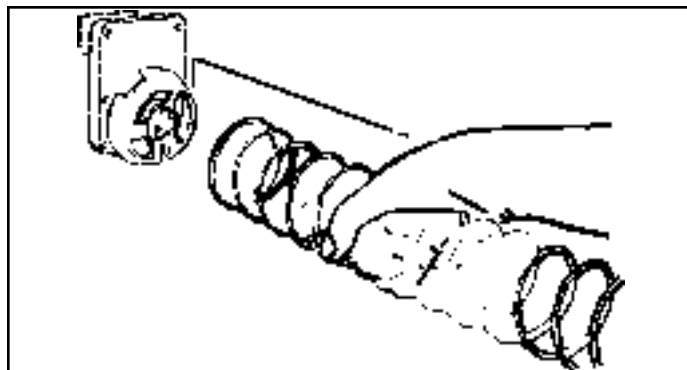
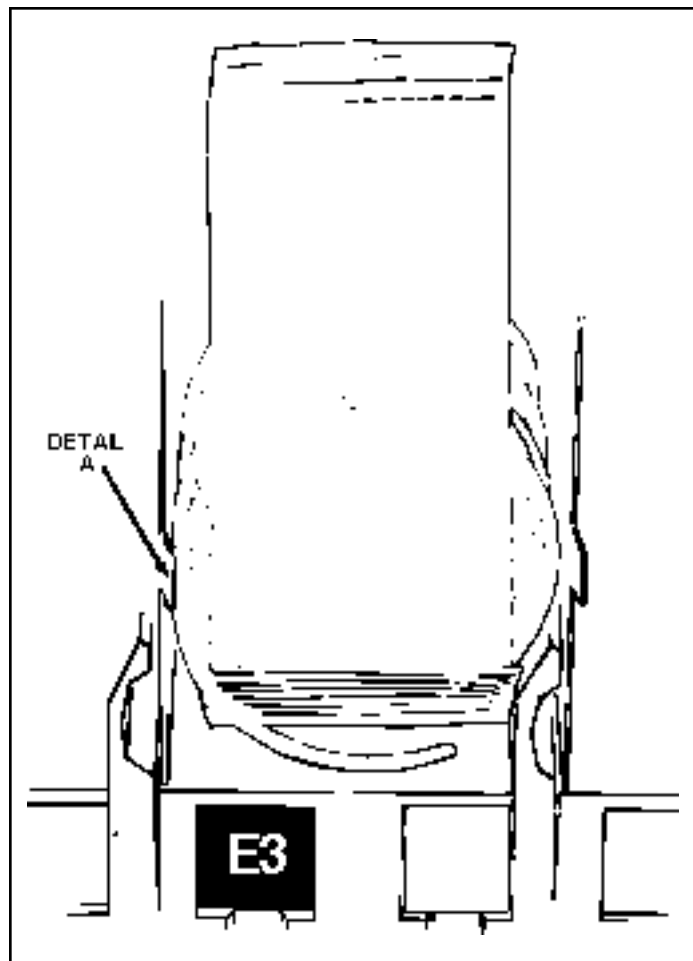

Figure 3. REMOVING AND INSTALLING SPIRAL.
Figure 5. PLACEMENT OF PRODUCT ON MAIN PRODUCT CANDY SHELVES AND FRONT END POSITION OF SPIRAL.
5. **REMOVAL OF SPIRAL:** Grasp the front of the spiral and turn it clockwise. Lift the spiral up and off of the spiral lock. When replacing a spiral attach it around the tab on the spiral lock and turn the spiral counterclockwise to lock it in place. Be sure the front end of the spiral is positioned properly (with the front end of the spiral pointing downward on the left side) (see Figure 3). The spiral lock is attached between the spiral retainer tabs. Give a light forward pull on front of the spiral to check it is locked in place.
7. **LOADING MAIN PRODUCT CANDY SHELVES:** The 10-selection (candy type) shelves are loaded similar to the 5-selection shelves except that the bottom of the product sits on the shelf in front of the spiral wire (see Figure 5) that rests on the shelf. These products must also fit properly product in the spiral space; do not force product into spiral.
These spirals are removed and installed the same as the large spiral (see Figure 3), except that the front end position is different (approximately 5 o'clock) (see Figure 5) and the front left side of the spiral must be behind the small tab located on the left side of the product space side wall (see Figure 5, Detail A).